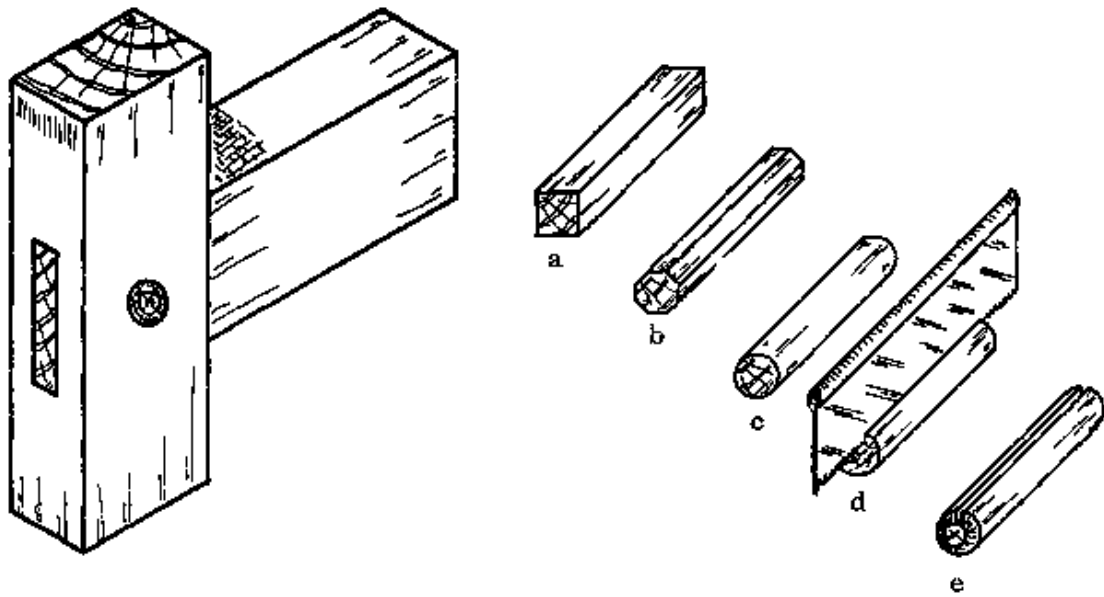

Fig. 1
One or two holes are drilled through the assembled joint and wooden dowels, or pegs, as they are called in this case, are inserted with glue to securely fix the joint (Fig. 1).
- To make the dowels, plane off the corners of a square piece of hard wood, until the piece is round. When the dowel is cut to length, chamfer the ends and cut a groove along the length to permit air and excess glue to escape (Fig. 1, a - e).